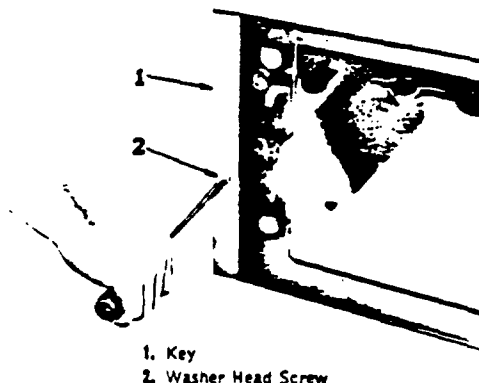

FIG. 20—Attaching Corner Keys
7. Place four short vertical keys in position at ends of front and rear burner access door frames, inserting top of keys under flanges of front and rear jacket panels. Attach keys to cast iron burner access door frame with washer head jacket screws. See Fig. 20.